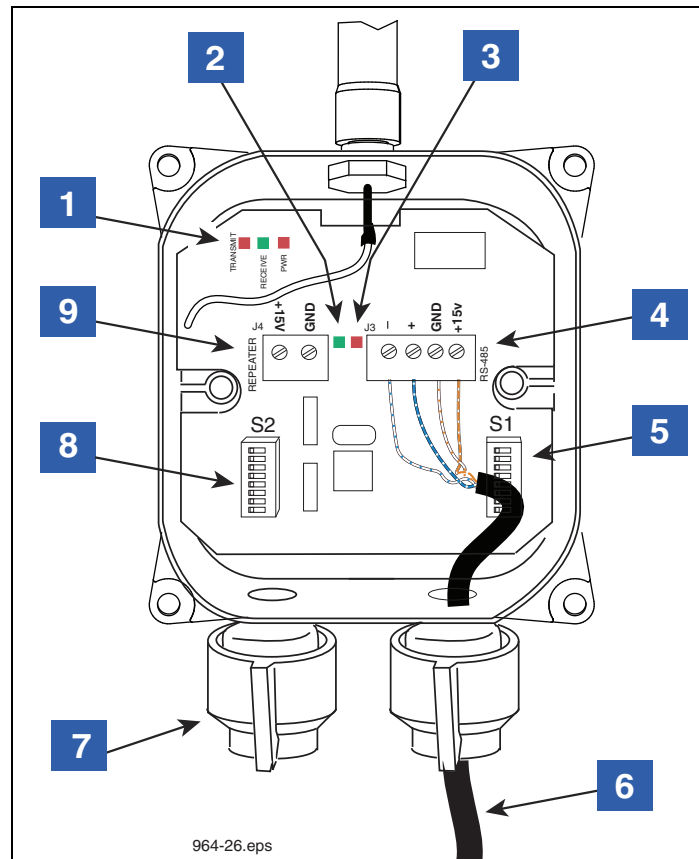

Figure 32. Wiring the Receiver
6. Note that there are two twisted pair color-coded wires in the cable (e.g., a white with blue stripe and blue with white stripe pair and a white with orange strip and orange with white stripe pair). One of the pairs is for RS-485 communication (- & + terminals) and the other pair is for Receiver power (+15 Vdc & Gnd). Using Figure 32 as a guide, attach the wires of the two twisted pairs to the RS-485 terminals.
8. If a Repeater is used and powered by the Receiver, push the two wire power cable (to Repeater) through the +15 Vdc cord grip of the Receiver (item 7 in Figure 32).
10. Attach the DC power cable (white to +15 Vdc and black to GND) to the Repeater terminal block (item 9 in Figure 32).
LEGEND FOR NUMBERED BOXES IN Figure 32
1. Use of a single repeater is optional but may improve system performance when installed correctly. The Repeater should be located closer to the device transmitters to rebroadcast messages to the Receiver. Use the 15 Vdc power source provided in the Receiver to power the Repeater, or use a customer supplied non-interruptible, Class 2, 15 Vdc power source. The most common method of powering the Repeater power is to use the Repeater power terminal block J4 in the Receiver (see item 9 in Figure 32).
8. The other end of the Repeater's DC power cable connects to the Receiver's +15 Vdc output terminal (ref. item 9 in Figure 32), or to a non-interruptible, Class 2, 15 Vdc power source.
- 5. DC Power input cable (from Receiver [item 9 connector - see Figure 32], or DC power source)